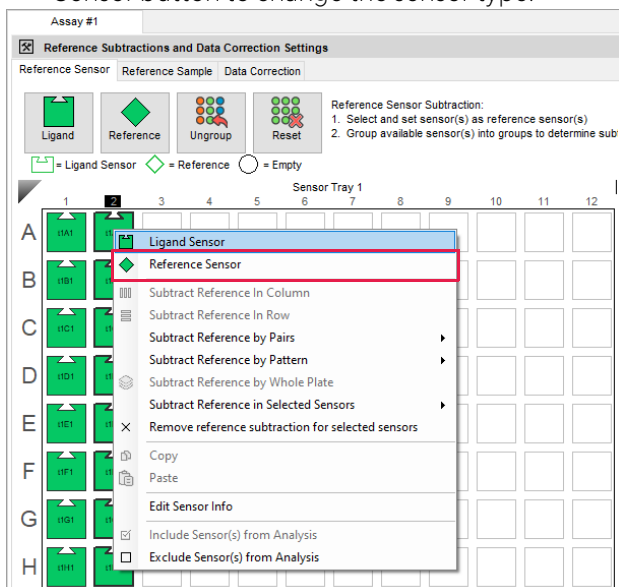

Figure 4-17: Setting Reference Sensors
2. Right-click a selected biosensors and select **Reference Sensor** (Figure 4-17). You can also click the Reference Sensor button to change the sensor type.